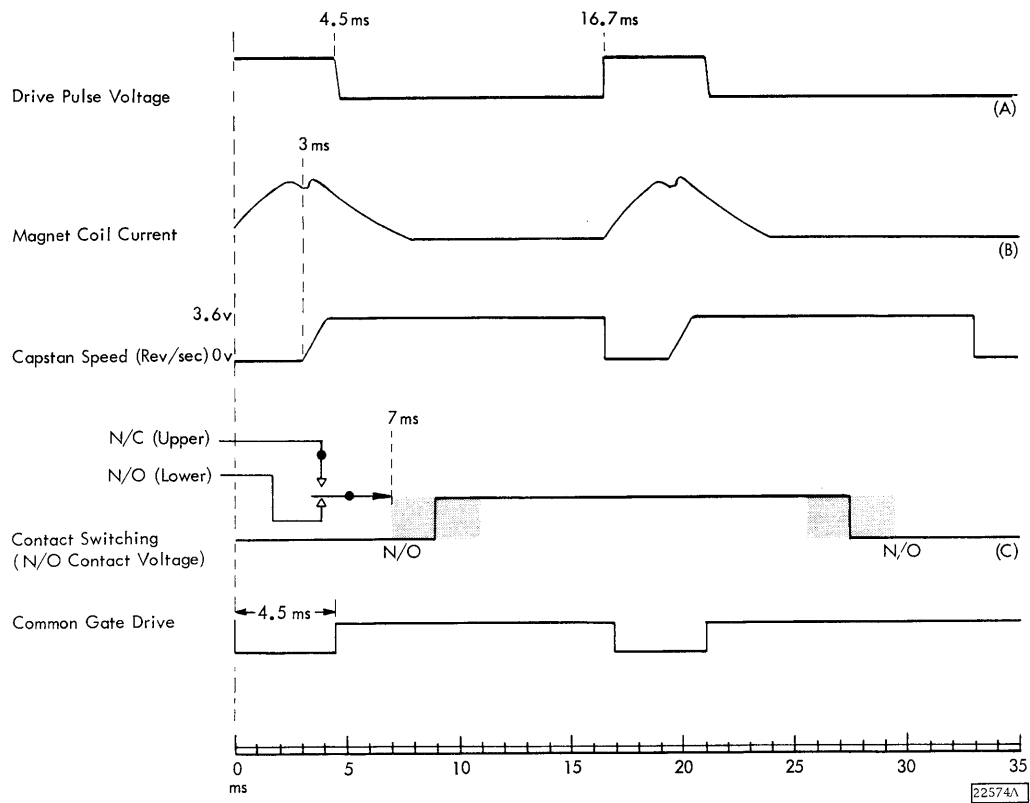
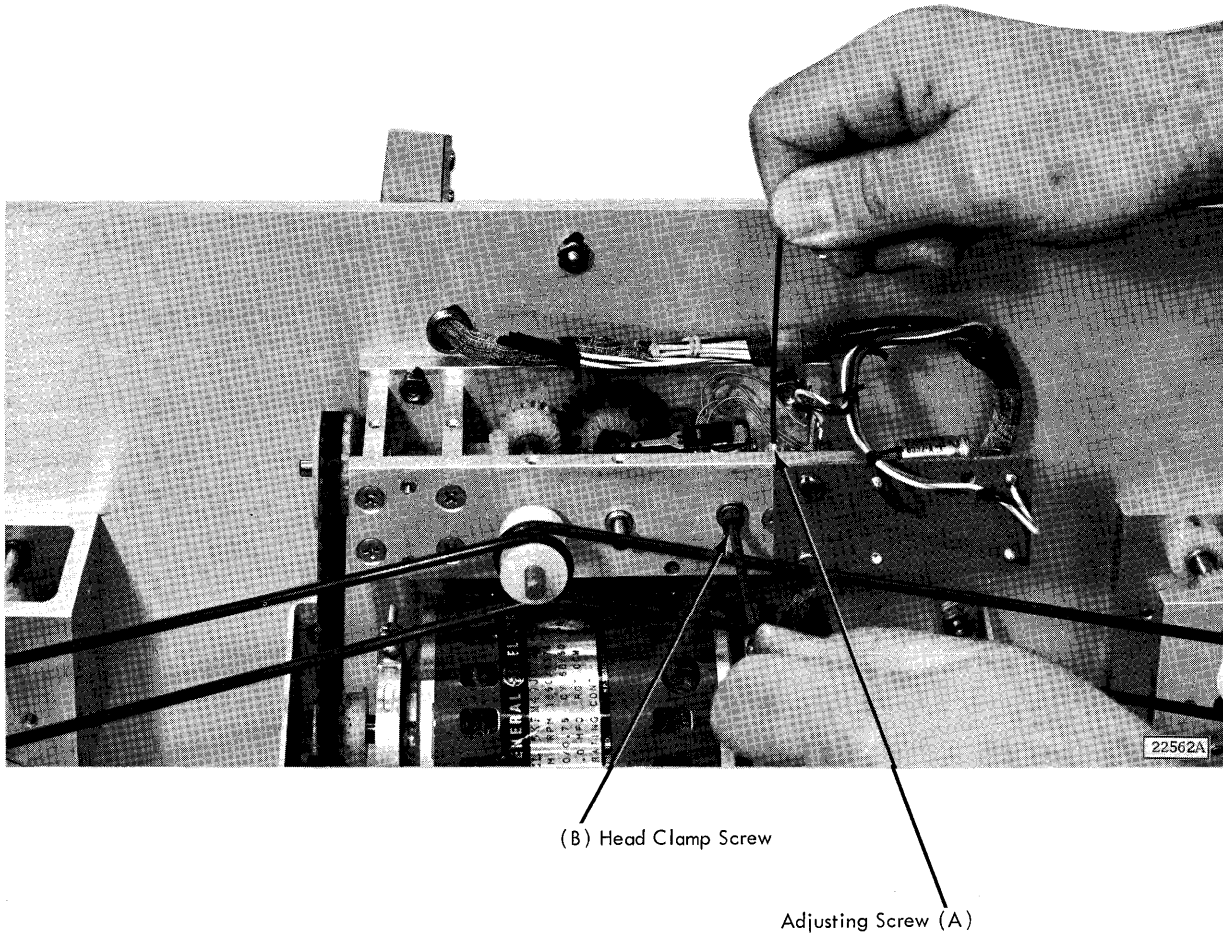

Figure 1-12. Timing Diagram
Figure 2-7. Timing Adjustment
Figure 1-12 shows the timing relationships and pulse duration requirements of the Paper Tape Reader. To start a cycle, a pulse is applied to the forward magnet. The magnet momentarily disengages the armature from the escapement wheel in the clutch assembly. Torque is transmitted to the capstan shaft until the armature engages the following tooth. This torque moves the capstan one space.
Contact switching should be checked by placing a jumper from the common contacts to ground and manually stepping the tape first forward and then reverse. Check with an oscilloscope from ground to the N/O contact. If the switching in both directions is not within the 7-14 millisecond zone (Figure 1-12), loosen the recessed-head clamp screw (B, Figure 2-7) and turn the adjusting screw (A) counter-clockwise to advance the tape; clockwise to delay it.